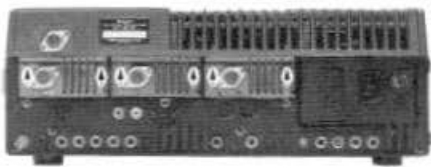

Figure 1
- 2) Remove the two screws affixing each VHF or UHF Band Module, and slide the modules out of the transceiver (Figure 1).